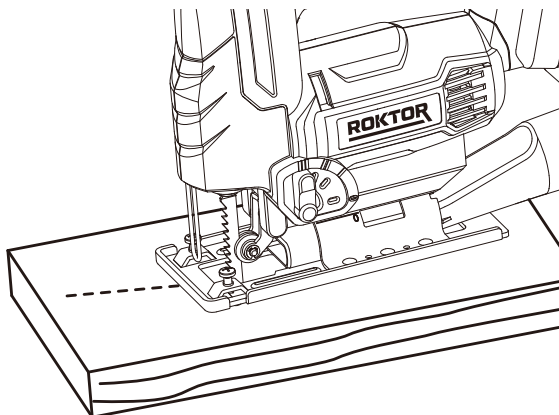

Figure 9-1
4. STRAIGHT CUT AND CURVE CUT (SEE FIG. 9-1 & 9-2)